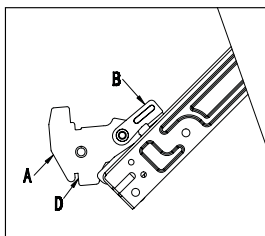

Fig.11-1
- › Open the door completely and lift the 2 levers “B” (fig.11-1).